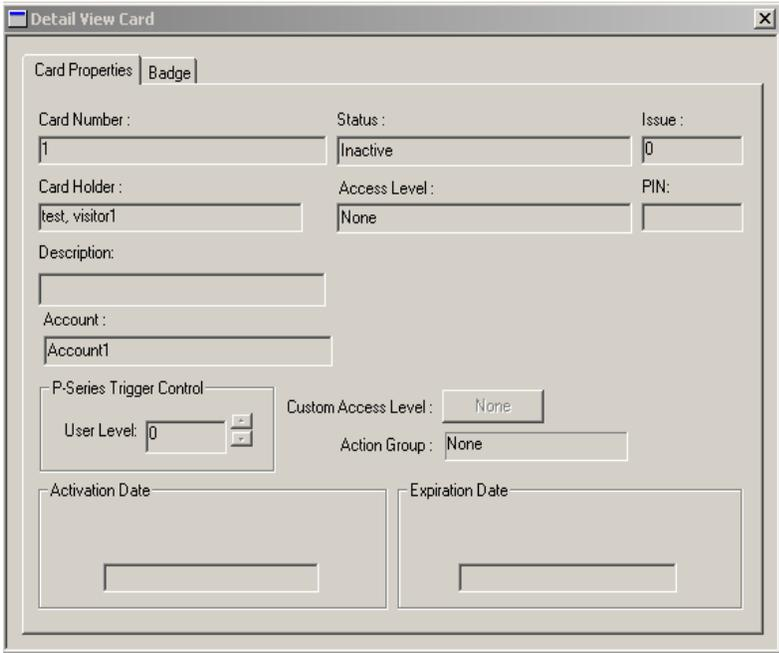

Figure 3-4 A detail view
- To view the details of a specific record in the list, click the record and then select the **Detail View** check box. A dialog box displaying the details of the record appears towards the right of the **Card** dialog box. See Figure 3-4.